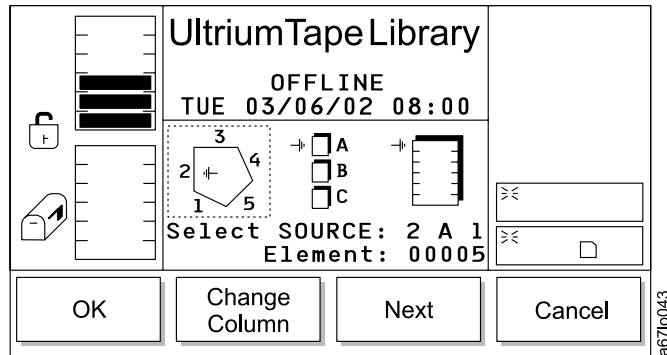

Figure 109. Source Move Media Dialog
- If **Move Media** is selected, the Source Move Media Dialog displays (see Figure 109 on page 106).
- If **Next** is selected, the current source parameter changes from slot to column (see Figure 109 on page 106).